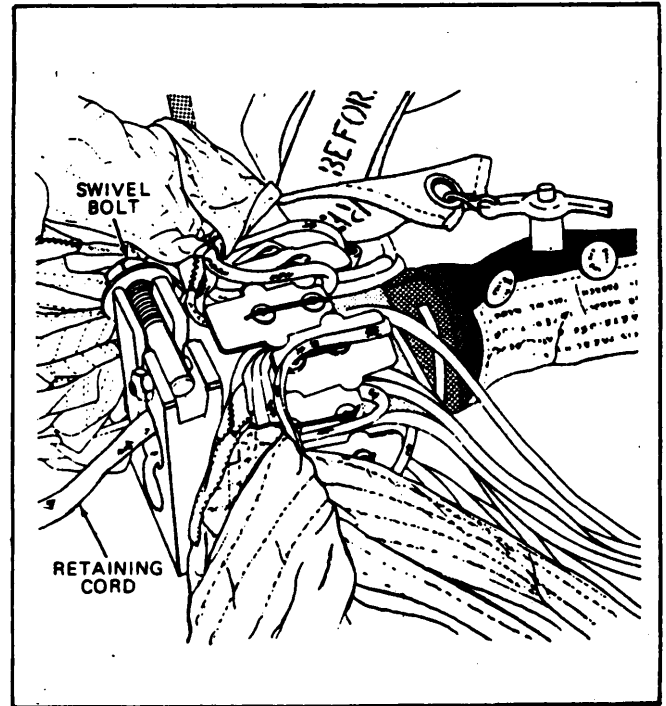

Figure 2-22.—Placing spreader gun in gun clamp.
3. Then place the cartridge end of the spreading gun into a spreading gun clamp assembly (fig. 2-22). Ensure that the lip on the clamp assembly circles the spreading gun housing. Route the retaining cord through the vertical slot in the center of the clamp and spread suspension lines to prevent entrapment between gun and clamp. Position the swivel bolt in the horizontal slot in the clamp, and torque the swivel bolt nut to  $7 \pm 1/2$  foot-pounds.